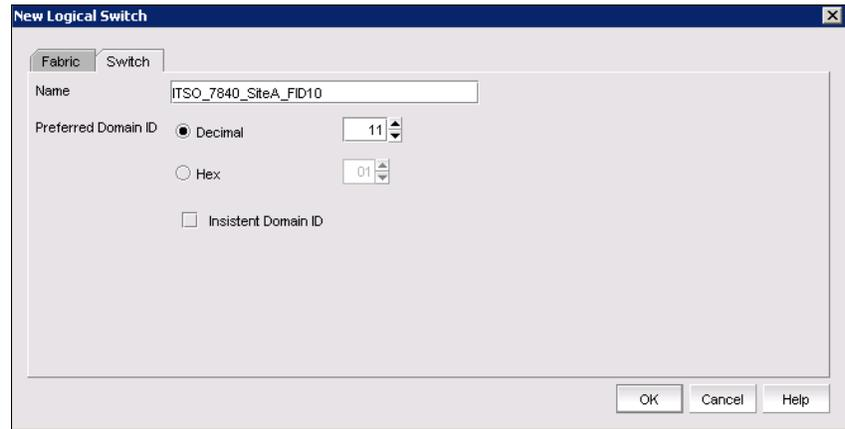

Figure 6-35 Assign domain ID for logical switch
10. Assign the switch name and domain ID to this logical switch (Figure 6-35). The domain ID should be different from the one of ITS0_8510_SiteA_FID10_pub. Here we use 11 for the domain ID of this logical switch.